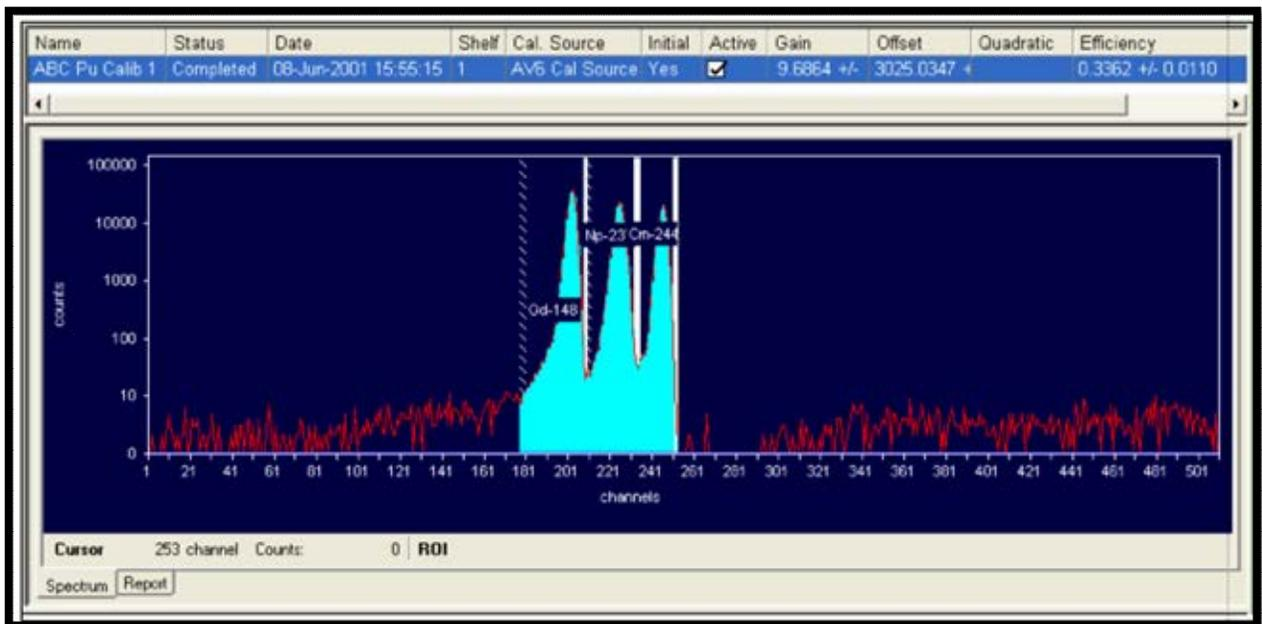

Figure 46. The New Calibration is Now Active
- 6) And that's it! The parameters for this **Completed** calibration are displayed in the upper Calibration Explorer Panel above the Spectrum/Report Window, and it is automatically marked as **Active** (Figure 46).